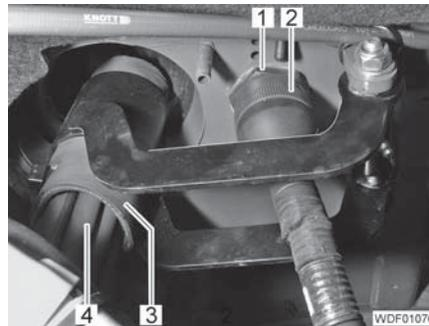

Fig. 350 Underside of the cab
- Carefully insert the hydraulic lines (Fig. 350,4) of the control hydraulic into the hose (Fig. 350,3).
- Insert the plug (Fig. 350,2).